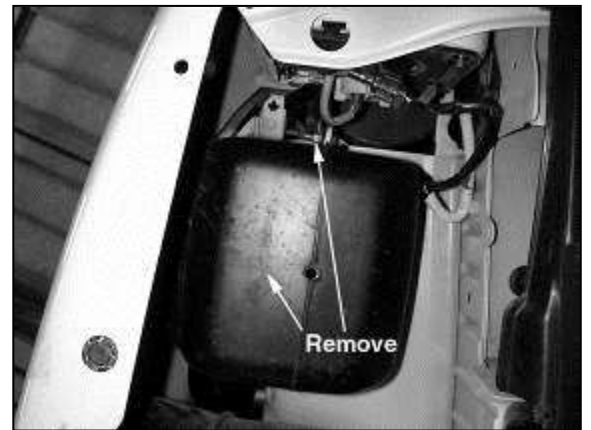

Fig. 6
- i. Pull the wheel well liner down and towards the back of the car. Locate the bracket, just behind the driving light, holding the resonator box on the underside of the passenger's side bumper cavity. Remove the nut and the resonator box from the vehicle. **(Fig. 6)**